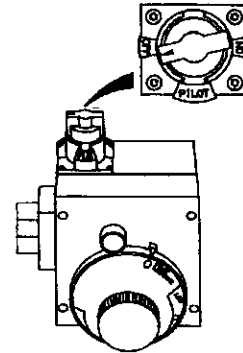
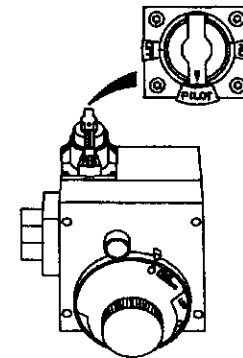

Figure 6
Figure 7
4. Turn gas control knob clockwise (  ) to "OFF" position. Knob cannot be turned from "PILOT" to "OFF" unless knob is depressed slightly. **DO NOT FORCE.** (Figure 6, page 17)
5. Wait five (5) minutes to clear out any gas. If you then smell gas, STOP! Follow "B" in the safety information above on this label. If you don't smell gas, go to the next step.
8. If you don't smell gas, turn knob on gas control counter clockwise (  ) to "PILOT" position. (Figure 7, page 17)
9. Push in control knob all the way and hold down. Immediately light the pilot with a match. Continue to hold control knob in for about one (1) minute after the pilot is lit. Release knob and it will pop back up. Pilot should remain lit. If it goes out, repeat steps 3 through 8.
- If the pilot will not stay lit after several tries, depress and turn the gas control knob clockwise (  ) to "OFF" and call your service technician or gas supplier. (Figure 6, page 17)